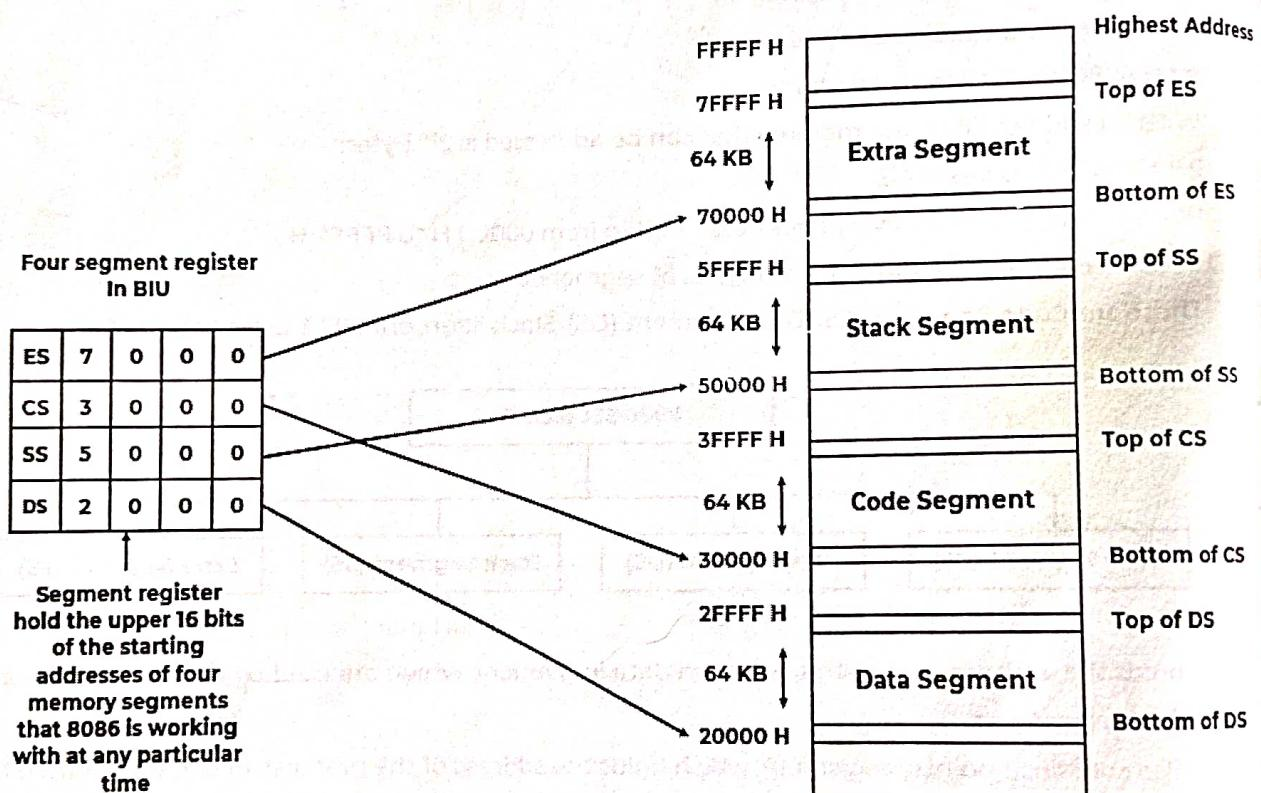

Figure 1.1: Segment Registers Segmentation.
9. Below figure 1.1 is the one way of positioning four 64 kilobyte segments within the 1M byte memory space of an 8086.